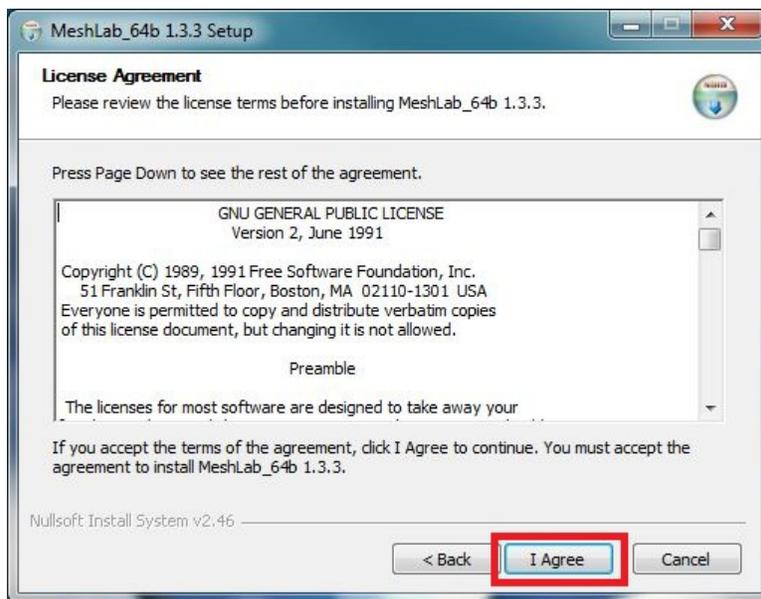

Figure 2-16. MeshLab End User License Agreement
3. Read and accept the end-user license agreement and the privacy agreement by clicking the "I Agree" button once for each agreement, as shown in Figure 2-16.